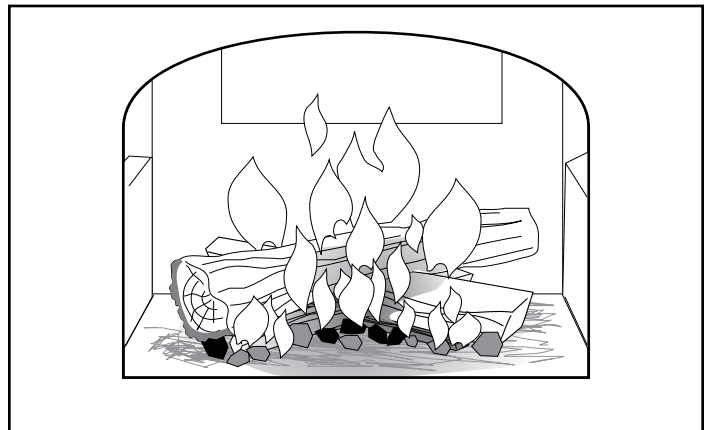

Figure 40 - Add larger pieces of wood as the fire begins to burn well.
4. If your Intrepid II has been broken-in previously using Steps 1-3, continue to build the fire gradually. Add larger wood with a diameter of 3-4" (76-102 mm). (Figure 40)